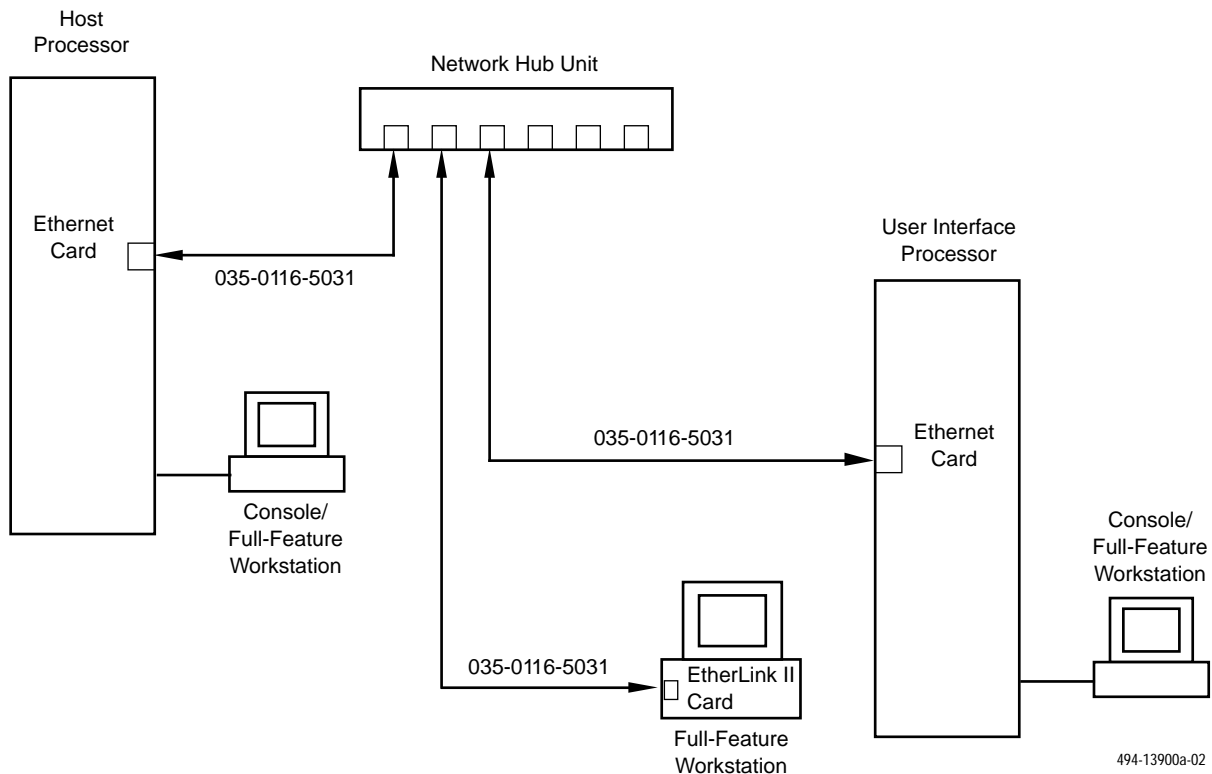

Figure 4-6. Local Area Network with Additional Full-Feature Workstations
To install a fourth, fifth, and sixth full-feature workstation, you will have to connect each workstation to the network hub. Figure 4-6 shows what the network will look like with the additional workstations.
1. Connect one end of the 035-0116-5031 cable to the jack on the EtherLink II card in a full-feature workstation, as shown in Figure 4-6.